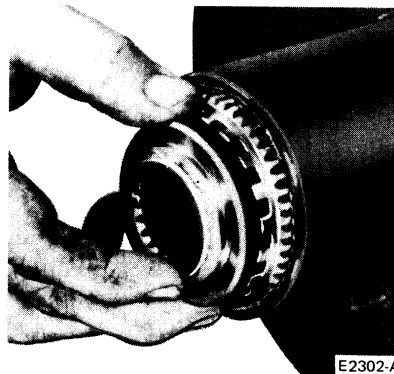

FIG. 9 Axle Shaft Sleeve and ring, and Inner Clutch Ring Installation
4. Install the axle shaft sleeve and ring and the inner clutch ring. Notice that the teeth are meshed together in a locked position for easy assembly. It may be necessary to rock the hub back and forth for spline alignment. Keep the two gears in locked position (Fig. 9).